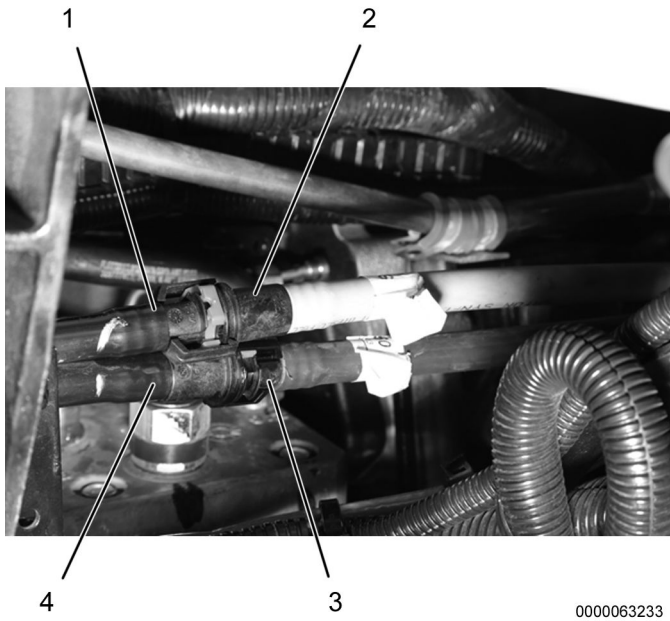

Figure 12. Fuel Return and Supply Lines.
25. Remove cap ZTSE4891 from fuel tank fuel return line (Figure 12, Item 3) and connect fuel tank fuel return line to engine fuel return line (Figure 12, Item 4).
26. Remove cap ZTSE4891 from fuel tank fuel supply line (Figure 12, Item 2) and connect fuel tank fuel supply line to aftertreatment fuel supply line (Figure 12, Item 1).